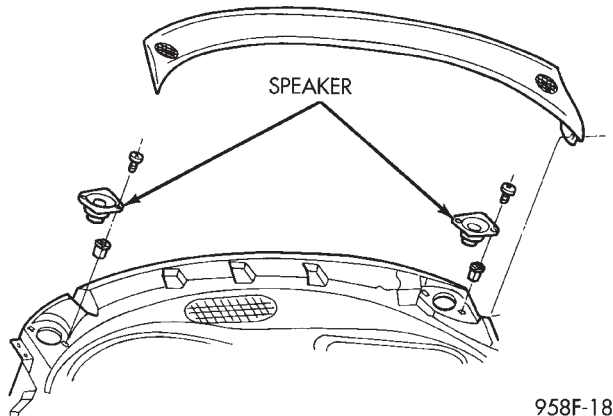

Fig. 16 Top Cover
(1) Open glove box door.
(2) Remove right end cap and remove screw at right end.
(3) Lift the right rear edge of top cover to disengage the clips along the rear edge. Proceeding from right to the left side. Do not use a nylon trim stick, to avoid potential damage (Fig. 16).
(4) Lift rear edge and slide top cover rearward disengaging clips and remove cover.